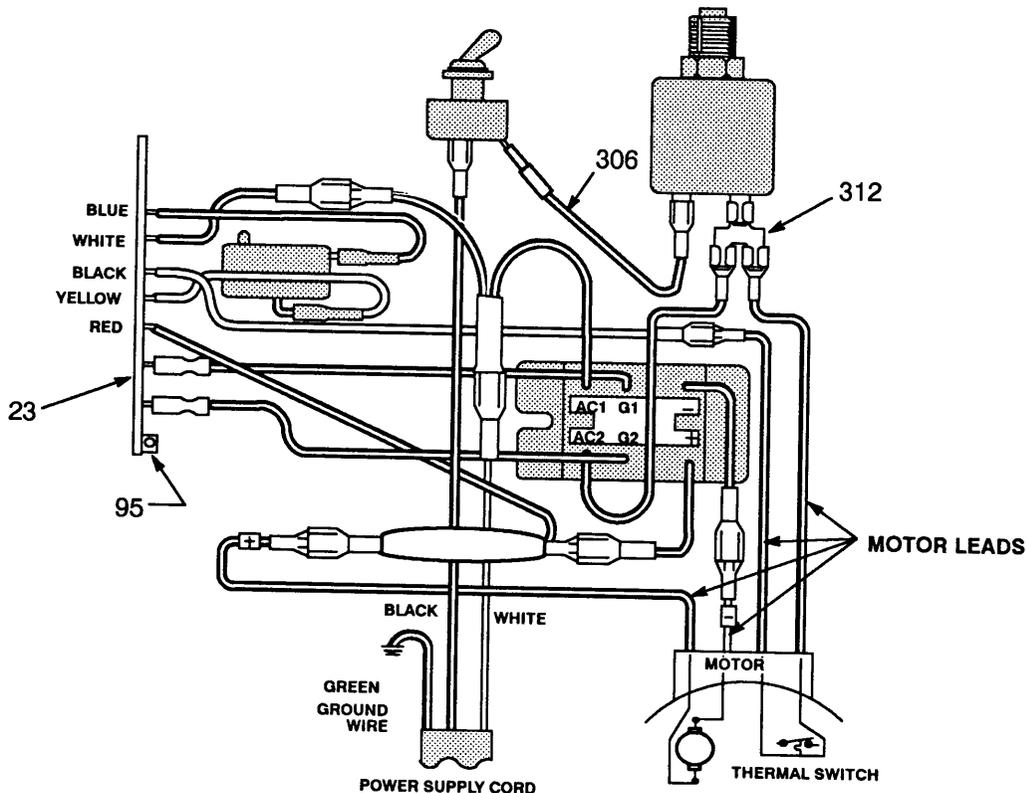
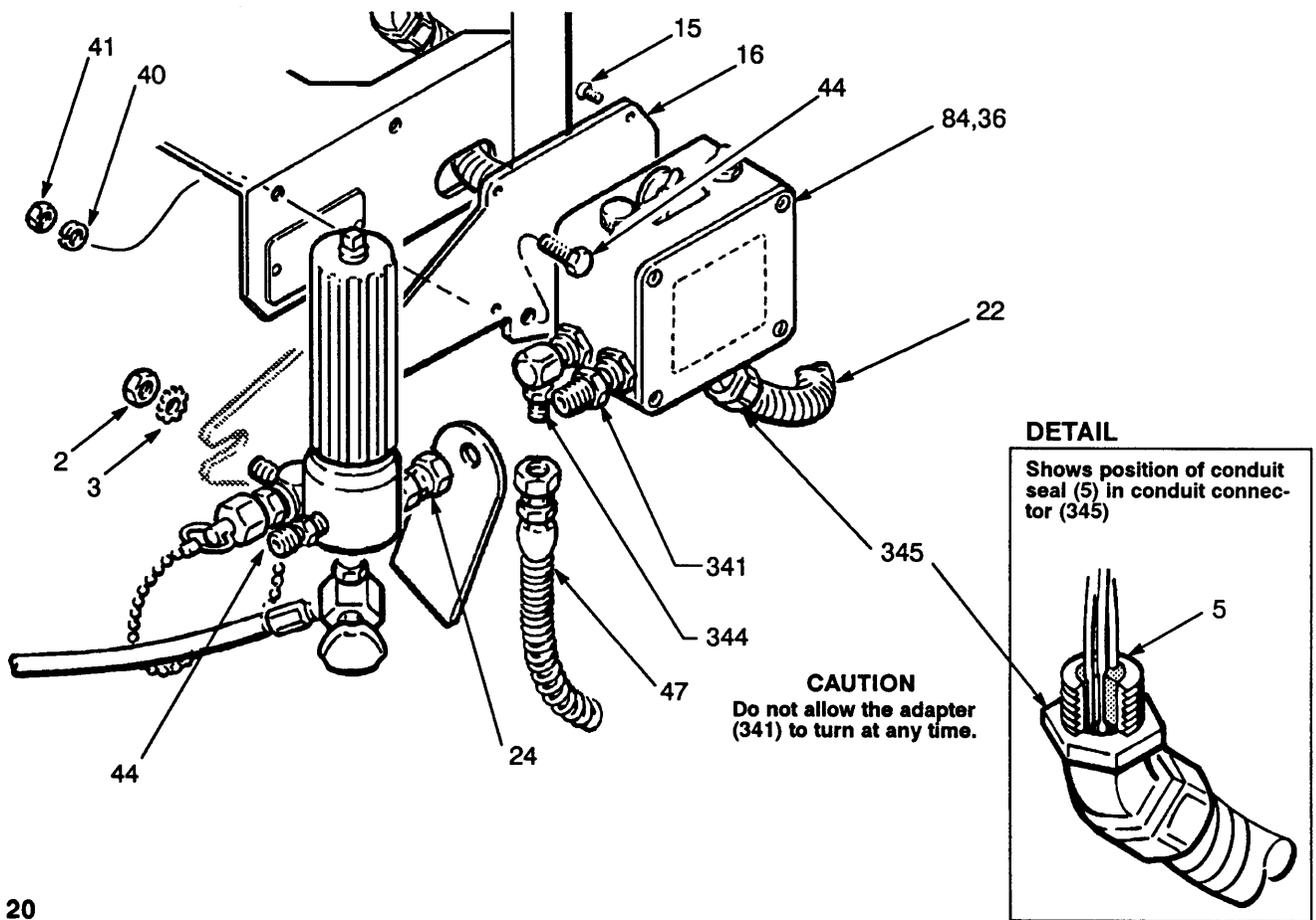

Fig 19
Fig 20
2. Use a small screwdriver to slide the terminal adapter (312) off the circuit breaker terminal. See Fig 19.
3. Disconnect the black wire (306) between the circuit breaker (309) and the ON/OFF switch (303).
4. Remove the nut and boot (310) on the circuit breaker button.
3. Disconnect ALL wires from the board, including the two heavy black wires. Pay close attention to where connections are made. See Fig 19.
4. Pull out the black plastic-tipped pin (95). Push the bottom of the circuit board toward the wall of the control and carefully slide the board out.
6. Reconnect all wires. See Fig 19. Ease the pin (95) into the retainer.
**NOTE:** See Fig 20 except where noted.
1. Disconnect the main fluid hose and the secondary fluid hose, if used. Disconnect the short hose (47) at the fitting (344).
3. Hold the hex of the pressure control adapter (341) firmly with a 5/8" open end wrench to prevent turning. Use an adjustable wrench to unscrew the fluid filter assembly.
4. Remove the pressure control cover (36). Disconnect the four motor leads. See Fig 19.
6. Remove the conduit (22).
7. Remove the three screws (44) located below the pressure control. Remove the pressure control.
8. Remove the screws (15) holding the back mounting bracket (16) to the pressure control. Install the bracket on the new pressure control.
9. Install the new pressure control assembly in the reverse order of disassembly. Reinstall the conduit seal (5) around the wires in the conduit connector (345) to prevent motor contamination from entering the control. See the DETAIL below.